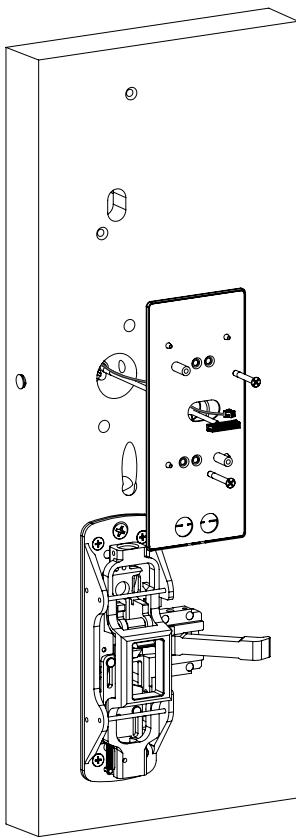
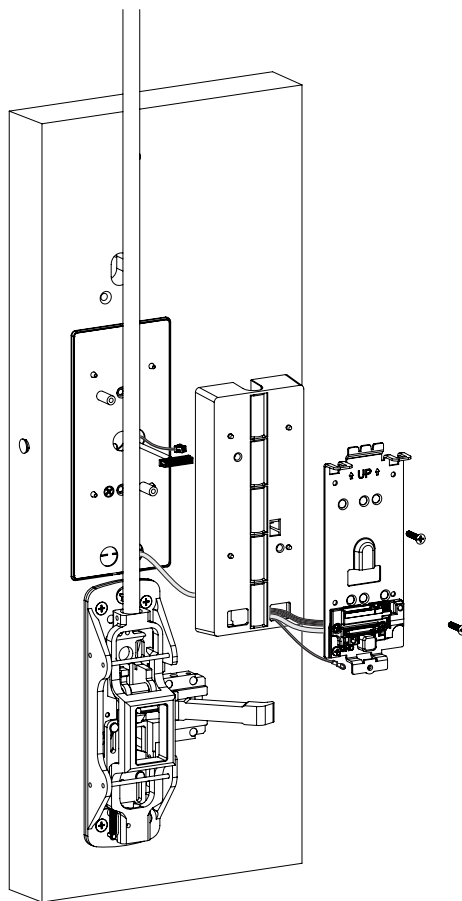

Figure 11-2C
Figure 11-2D
1. Feed the cables/connectors through the inside spacer mounting plate assembly (and gasket if required*) (Figure 11-2C).
2. Secure spacer mounting plate assembly while ensuring proper alignment of outside reader and tighten two (2) through-bolts on inside of door to secure reader.
5. Feed cables/connectors through the plastic SVR spacer and controller inside mounting plate. (Figure 11-2D)